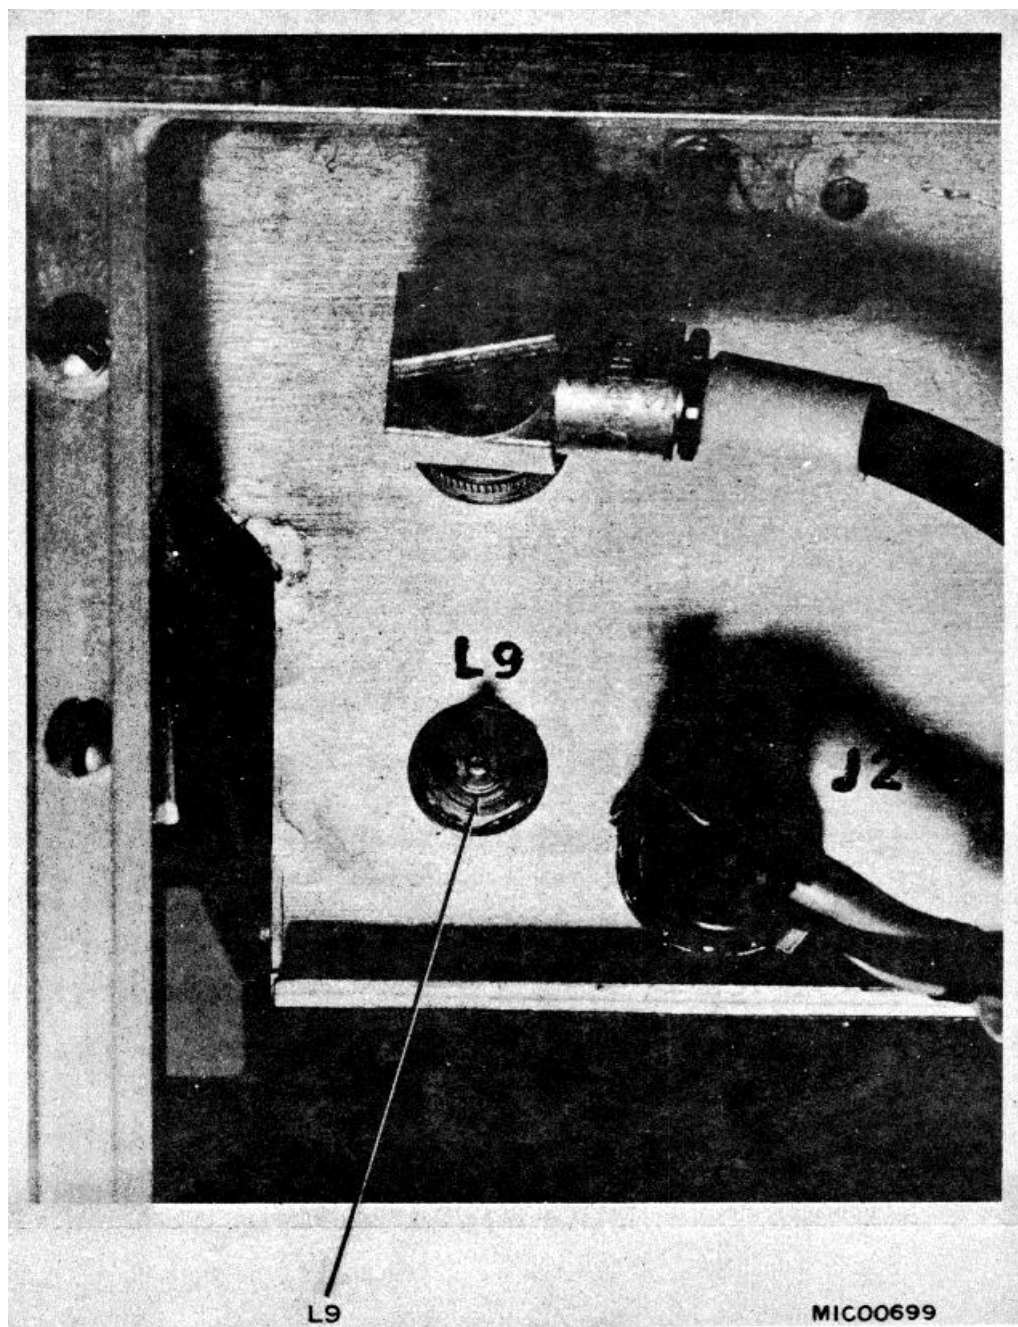

Figure 6-12. VCO box-side view.
c. Depress preselector tune switch. Adjust L9 (Fig. 6-12) for a peak indication on the VOM and with a frequency of 5 MHz. Record the voltage. Release preselector tune switch and tune VCO box to 5 MHz, using coarse and fine tune controls. Depress preselector tune switch.